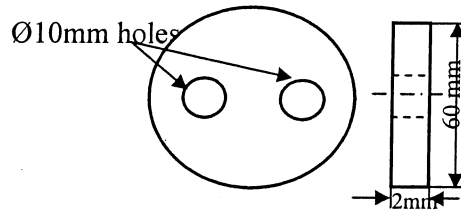

Fig. 1
- (b) A washer with two holes is to be produced from the sheet metal as shown in Fig.1. Design two station die set for this purpose. Assume shear stress is 400MPa.